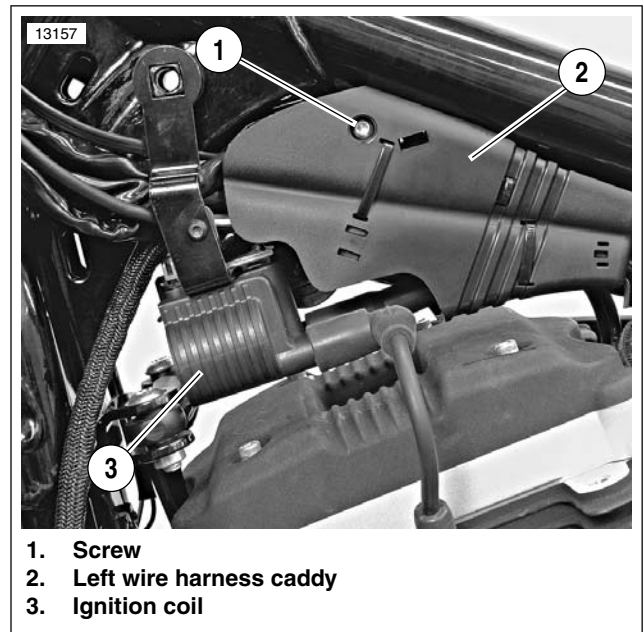

Figure 7-12. Ignition Coil
5. See Figure 7-12. Remove screw (1) securing left wire harness caddy (2) to right wire harness caddy. See WIRE HARNESS CADDY under 7.38 ELECTRICAL CADDIES. Carefully disengage left wire harness caddy and pull away from frame backbone.
3. Plug harness connector [83B] (2) into coil.
4. Plug spark plug cables into ignition coil towers; front spark plug cable (3) to left side of coil, rear spark plug cable (4) to right side of coil.
5. See Figure 7-12. Mate left wire harness caddy (2) to right wire harness caddy. Secure with screw (1) and tighten. See WIRE HARNESS CADDY under 7.38 ELECTRICAL CADDIES.